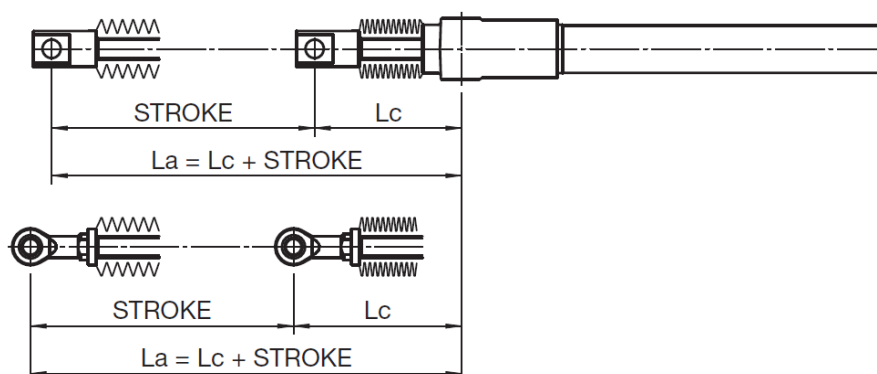

Figure 6.5 – “Lc” and “La” dimensions
- The positions of the two limit switches are the extreme travel positions Lc and La (see Fig. 6.5).
- The extreme positions of the two limit switches on the slide are the extreme travel positions Lc and La (see Fig. 6.5)
- The activation positions of the two limit switches are the extreme travel positions Lc and La (see Fig. 6.5).
- Check if the extreme dimensions of the actuator “Lc” and “La” (see Fig. 6.5) are compatible with extreme positions of the plant component that has to be moved.